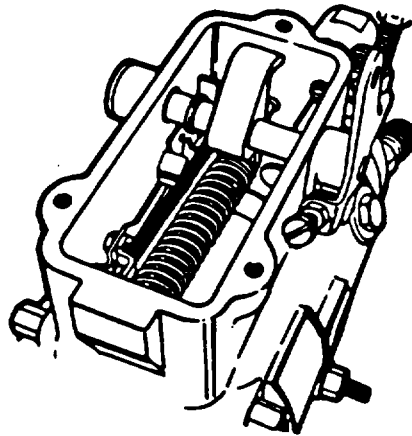

FIGURE 3-104. Installing Shutoff Cam
- ci. Compress both sides of throttle shaft (18) and shutoff shaft (30) and install a new shutoff cam (17) with straight inner edge engaging slot, refer to FIGURE 3-104